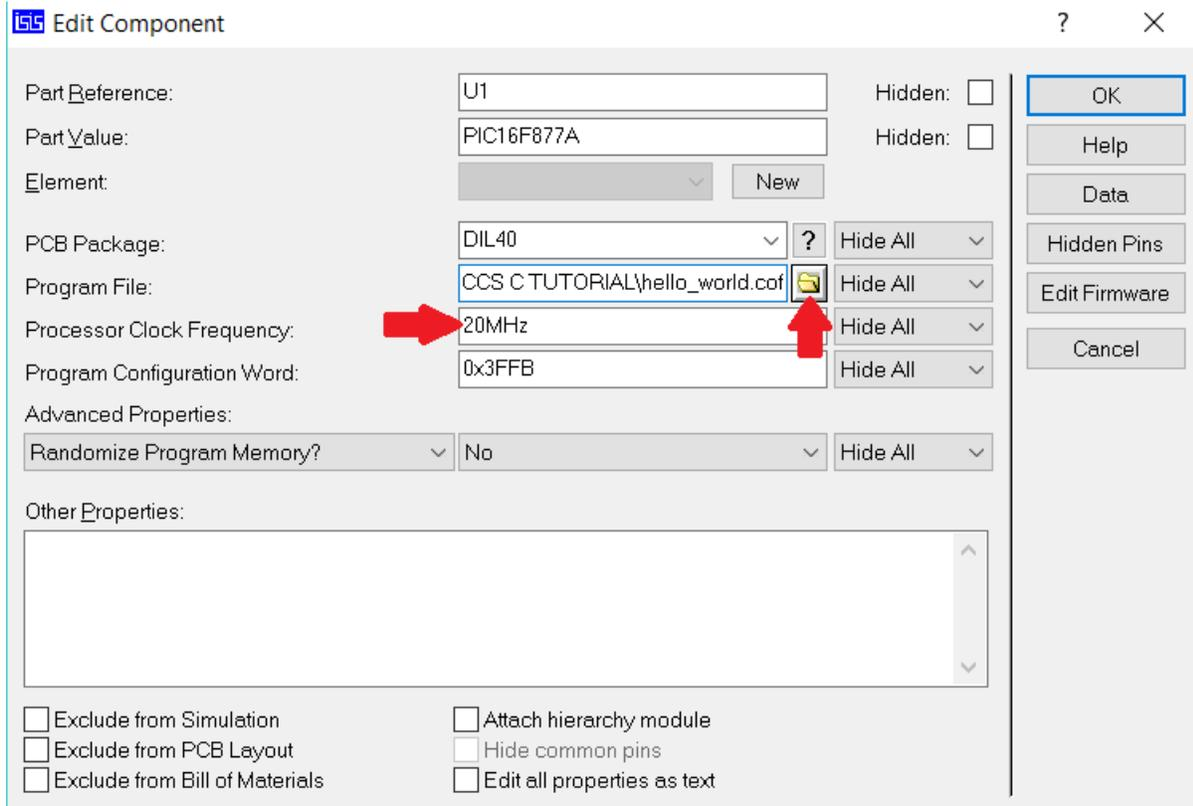

Figure-13
5) Circuit is constructed, now we need to load our ".hex" file to the PIC and run the simulation. By double clicking on the PIC16F84A IC on ISIS, a new window will be opened. From this window, choose your ".hex" file from the directory that you have created in part one. In Figure-13, ".hex" file is added and clock frequency of the IC is set to 20MHz. After setting these, press "OK" button.